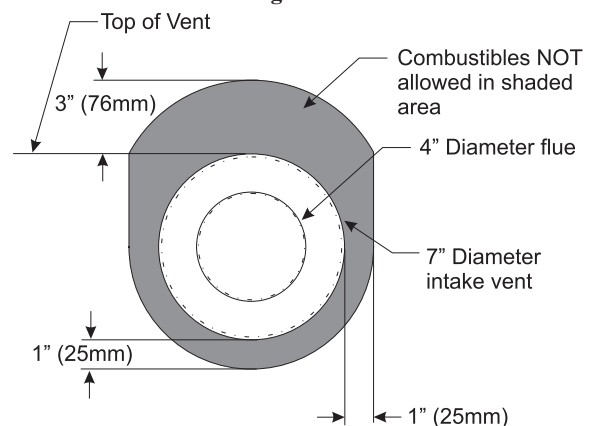

Figure 45
5. Install the Wall Firestop/Thimble assembly as required through the wall. Refer to the venting charts in the fireplace manual to determine the proper height and size of the vent opening. The minimum opening should be 9" wide by 11" high. The minimum combustible clearance from the horizontal vent is 1" from sides and bottom, and 3" above the vent pipe. See Figure 45.